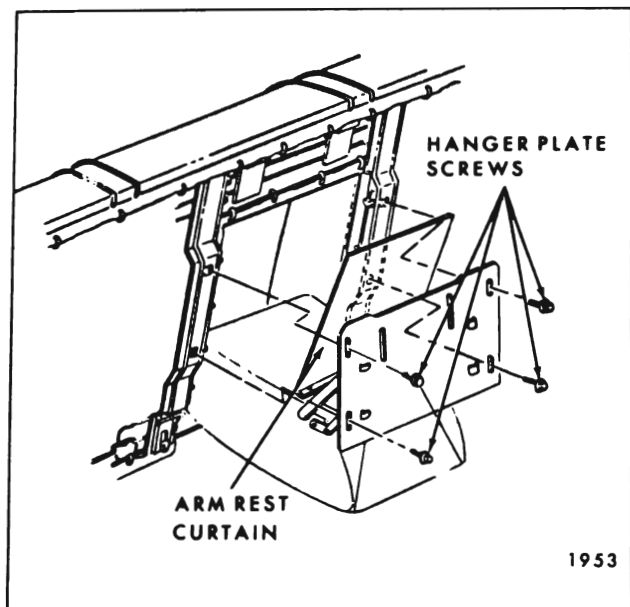

Fig. 15-45—Rear Seat Back Arm Rest and Hanger Plate
2. On back side of rear seat back, remove four screws securing arm rest hanger plate to seat back supports; then, carefully remove arm rest and hanger plate assembly from seat back (Fig. 15-45).